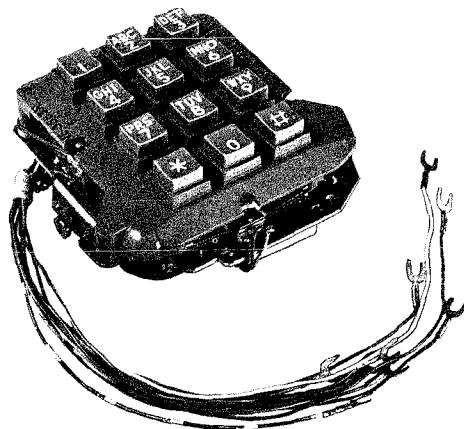

Fig. 1 — 35-Type Dial — Front View
1.03 The 35-type dials (Fig. 1 and 2) are TOUCH-TONE® dials having twelve push-buttons. Ten are used in "number-letter" calling and two are used to give special service connections.